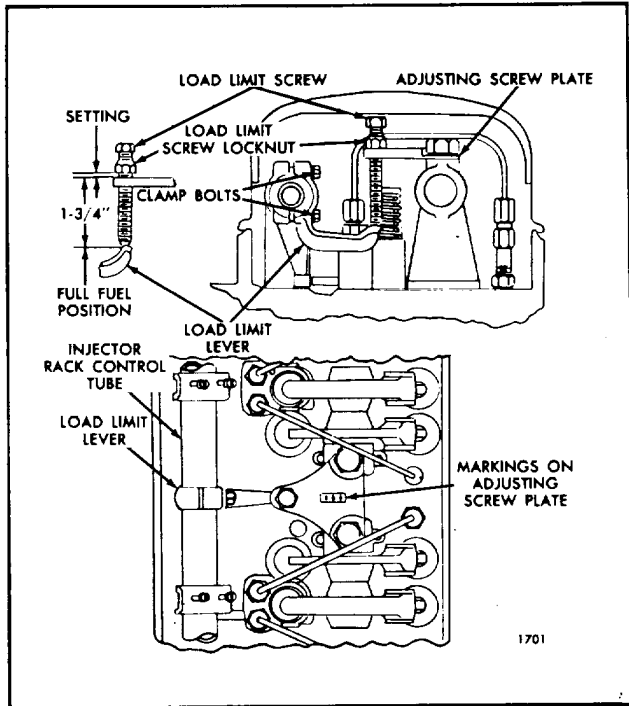

Fig. 10 - Load Limiting Device Mounted on Engine
- 1 Loosen the load limit screw lock nut (Fig 10).